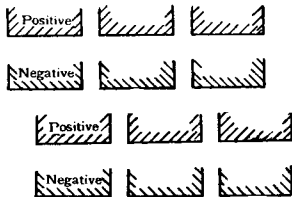

FIG. 16—CORRECT METHOD OF STAGGERING BRUSHES
**Staggering Brushes**—Staggering is done to give an even wear to the commutator and should be done in pairs of arms (not alternate arms), that is, one positive with one of its adjacent negative arms should be set, to the right or left of the initial pair  $\frac{3}{8}$  inch or more. The third pair should trail the first pair; the fourth, the second, and so on. (See Fig. 16.)